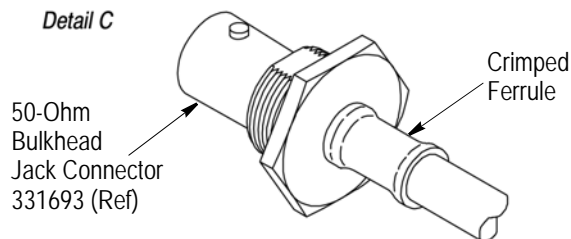

Figure 3
2. Insert center conductor into center contact; then crimp contact using the appropriate crimping tool. See Figure 3, Detail A.
3. Flare cable braid. Insert center contact into bulkhead jack body, making sure the cable braid is positioned over the support sleeve of the connector. See Figure 3, Detail B.
4. Slide ferrule over braid and support sleeve; then crimp ferrule using the appropriate crimping tool. See Figure 3, Detail C.